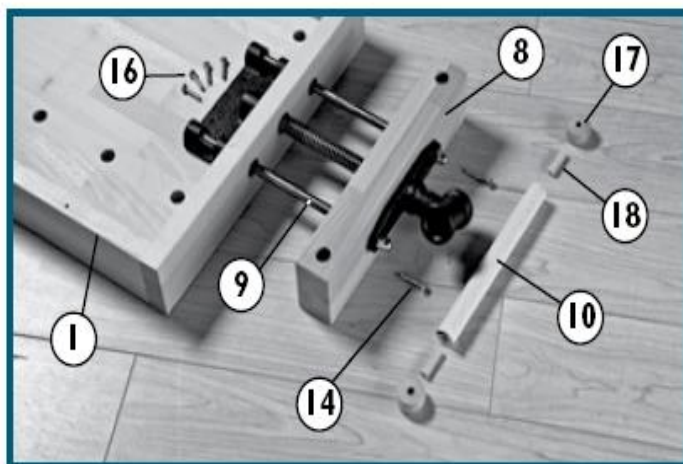

Fig. 4
4. Slide the Vise Assembly (9) through holes in the Vise Face (8) and Bench Top (1). Secure Vise Assembly (9) to the Bench Top (1) with four Hex Head 6 x 30mm Bolts (16) and to the Vise Face (8) with two 5 x 50mm Wood Screws (14). Feed the Vise Handle (10) through the Vise Assembly (9) and attach Handle Ends (17) with Dowels (18) (Fig. 4). Repeat this process to attach the other Vise Assembly to the front of the Bench Top.